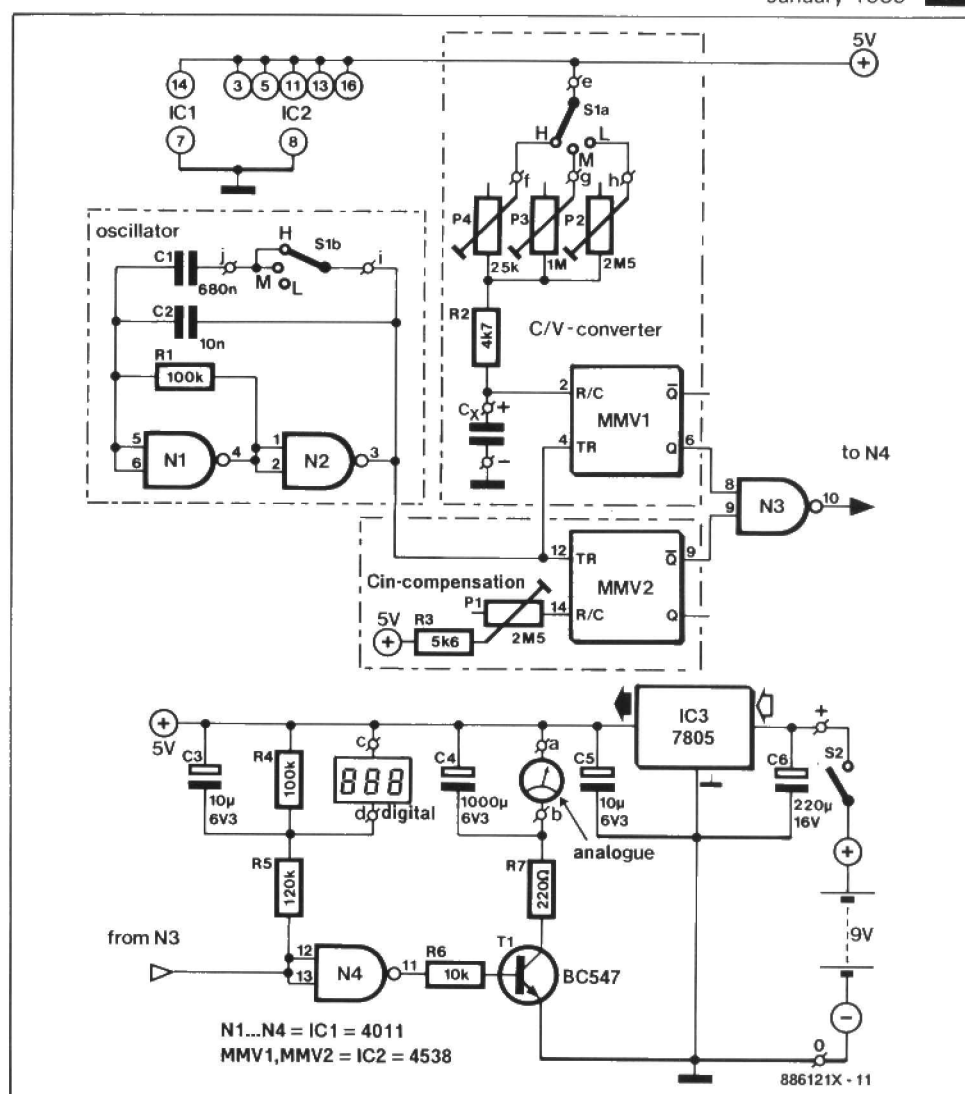

Fig. 1. Circuit diagram of the low-budget capacitance meter.
The operating principle of the capacitance meter is the conversion of capacitance (C) to voltage (V). This function is carried out mainly by MMV1 (MMV=monostable multivibrator) shown in the circuit diagram of Fig. 1. MMV1 is triggered by the positive pulse edges of a rectangular